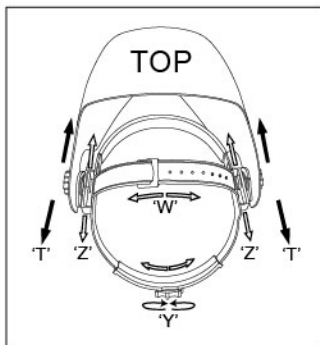

Figure.1
See Figure.1. The overall circumference of the headband can be made larger or smaller by rotating the knob (Y) on the back of the headband. This can be done while wearing the helmet and allows just the right tension to be set to keep the helmet firmly on the head without it being too tight.
See Figure.1. Undo the block nut (T) to adjust the distance between the helmet (in the down position) and your face. Loosen the block nut on either side of the helmet and slide it nearer or further from your face (Z). It is important that your eyes are each the same distance from the lens. Otherwise the darkening effect may appear uneven. Re-tighten the block nut when adjustment is complete.